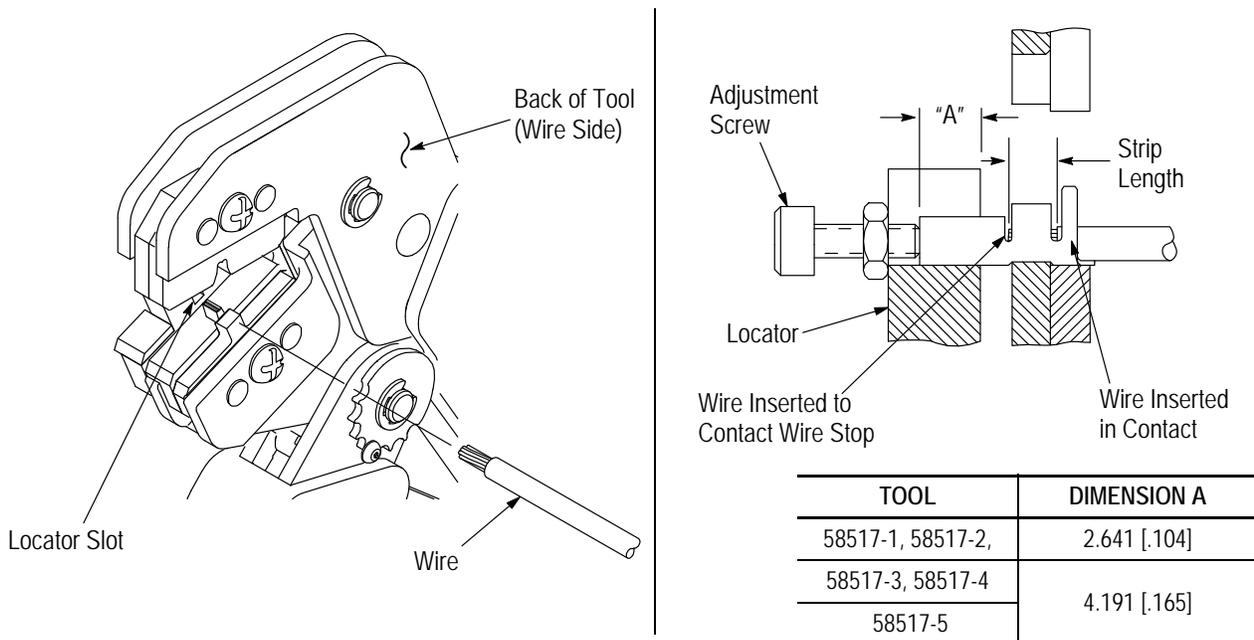

Figure 3
Refer to the table in Figure 1 and select wire of the specified size and insulation diameter. Strip the wire to the length indicated in Figure 1, taking care not to nick or cut wire strands. Select an applicable contact and identify the appropriate die assembly according to the wire size markings on the die. Refer to Figure 3 and proceed as follows:
4. Insert stripped wire into contact insulation and wire barrels until it is butted against the wire stop on the contact, as shown in Figure 3.
5. CONTACT SUPPORT ADJUSTMENT (Figure 3)